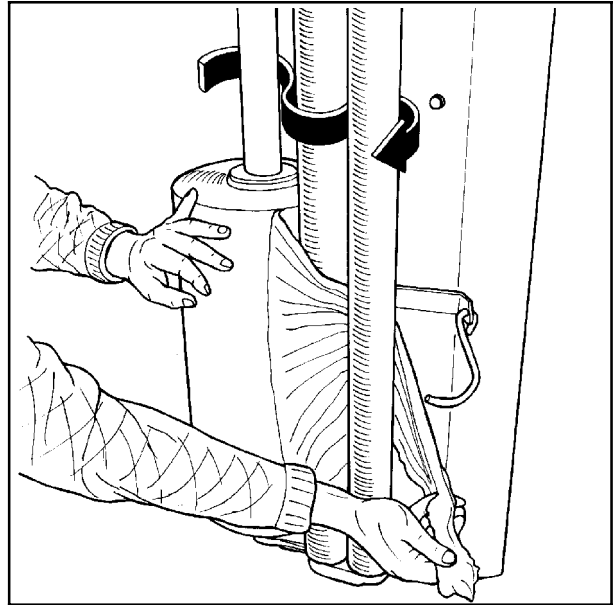

Fig. 5-2
- 5.3 Pull the film between the rollers on the prestretcher in the direction of the arrow. (See fig. 5-2). (See also the sign on the prestretcher).